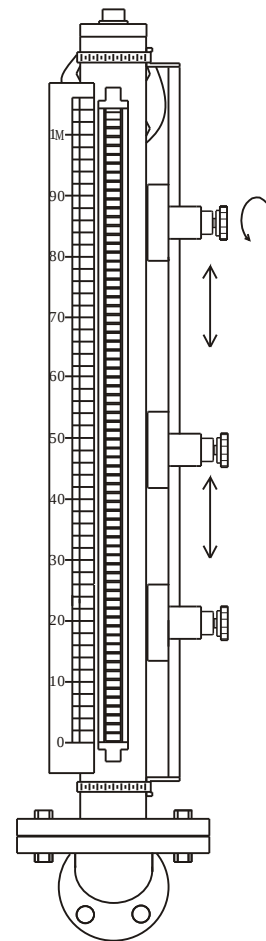

fig. 3
9. The magnetic switch (EFB-14□□ series) is to be placed on a riding rod, then fasten the riding rod to the chamber with two hose clamps. (see page 18 - fig.3)